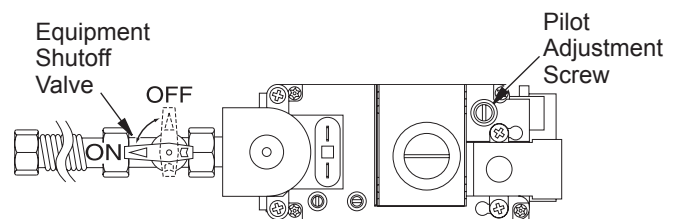

Figure 42 - Turning Equipment Shutoff Valve to the OFF Position
5. Turn equipment shutoff valve clockwise to the OFF position (see Figure 42). Do not force.
6. Wait five (5) minutes to clear out any gas. Then smell for gas, including near the floor. If you smell gas, STOP! Follow "B" in the safety information in column 1. If you don't smell gas, go to the next step.
- Turn the adjustment screw marked PILOT clockwise to decrease or counterclockwise to increase the flame to proper size (see Figure 42, page 23). Do not remove the adjustment screw.